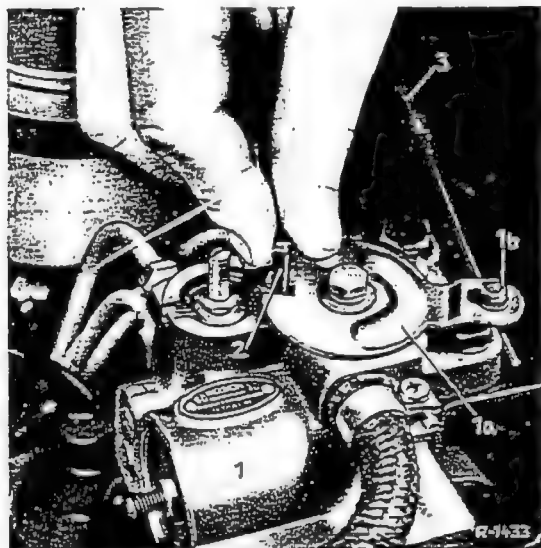

Fig. 32-18/3
- (D) Connection for electric pressure indicator for warning lamp
- (V) Screw plug for exhaust air from front axle
- (H) Screw plug for exhaust air from rear axle
7. Connect the cable for the valve unit to the lever (1a). To do this, push the push-pull button on the instrument panel in completely and secure the lever on the valve unit by means of a 5 mm Φ pin in "Drive Position" (Fig. 32-18/3).